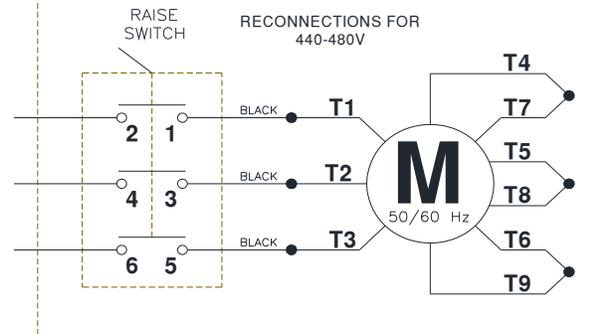

Fig. 12 – Electrical Wiring Diagram
- 36) Refer to Fig. 12 Wiring Diagram for all steps under this heading.